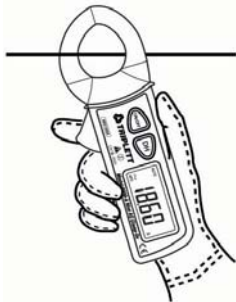

Figure 3
2. Open Clamp Head by pressing the Lever and clamp around a single conductor. See Figure 3.